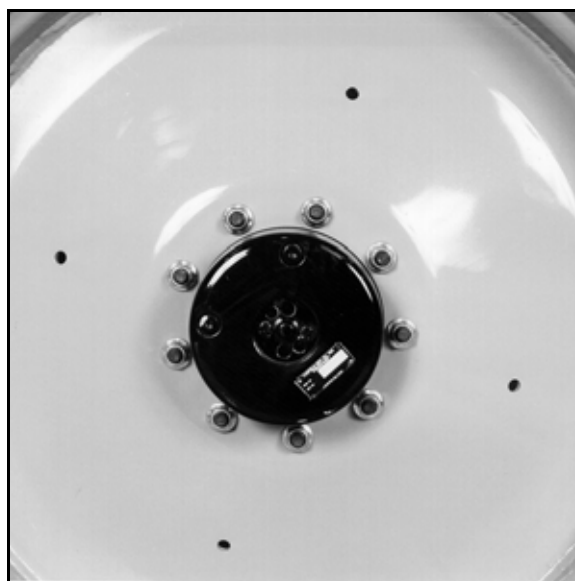

FIG 7.3
2. Disengage each Torque Hub[®] by removing the two outer cap bolts, turning the outer cap with the extended center in towards the hub and re-installing the two outer cap bolts. This process pushes on a spring-loaded splined shaft, disengaging the Torque Hub[®] (fig. 7.3).